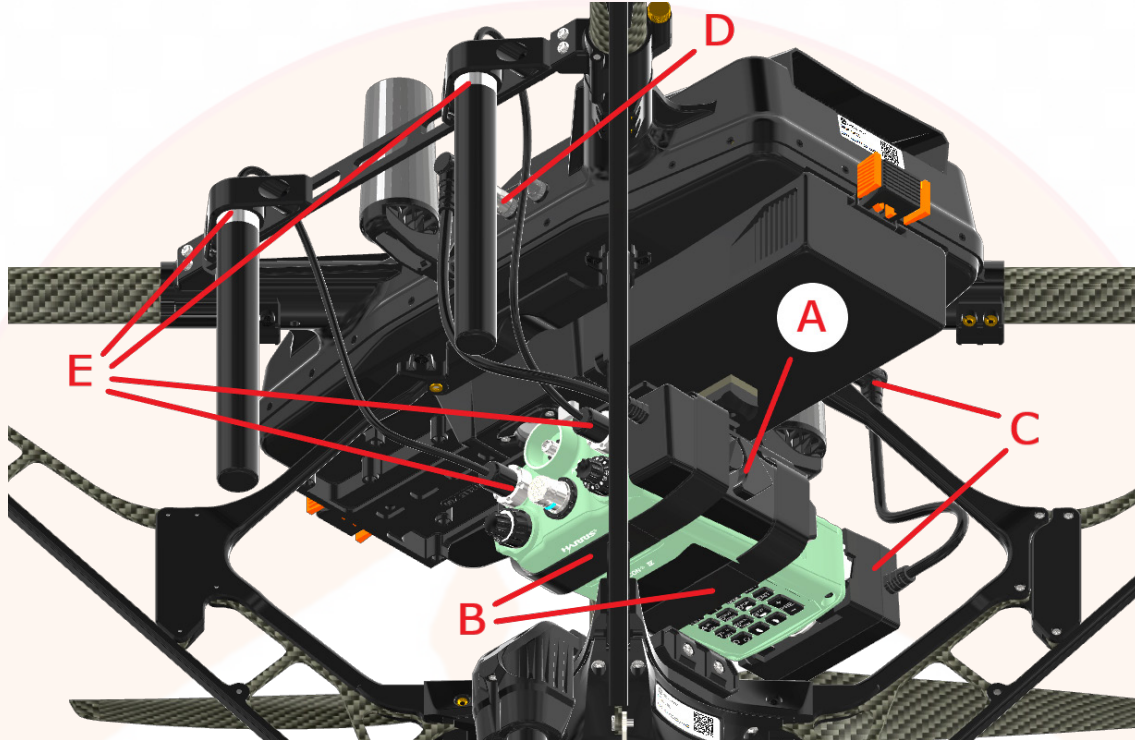

Figure 27: PRC-163 Radio Installation
1. Attach the HL, PRC-163 Ethernet Cable Assembly to the side of the radio (**Figure 27, A**).
2. Insert the PRC-163 radio into the two straps on the Universal Radio Plate, centered and oriented as shown, and then tighten the straps to secure the radio in place (**Figure 27, B**).
4. Connect the HL, PRC-163 Power Cable Assembly to the back of the radio and plug it into the aircraft **P1** connector (**Figure 27, C**).
5. Connect the HL, PRC-163 Ethernet Cable Assembly to the aircraft **E1** connector (**Figure 27, D**).
6. Connect one Antenna Bracket with two Octane Antennas to the left side of the aircraft (see Bracket and Antenna installation instructions above), then connect the cables to the radio's **RT1** and **RT2** connectors (**Figure 27, E**).